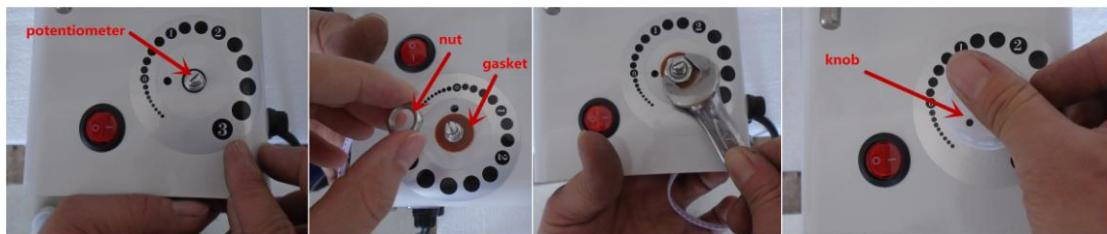

Fig 4
D. 把电位器套进机器上的孔，然后依次把垫片和螺母套进电位器上，用扳手固定螺母，最后把旋钮盖套进电位器上。(图 4)
Finally, knob is setted into potentiometer. (fig4)
First, put the new PCB into the machine and fix it. Then fix the yellow-green wires 1 and 2 in screw 7 in the new PCB(Fig4).
G. 把两条蓝色线固定在新线路板的位置“3”。最后把棕色线固定在新线路板的位置“2”。(如图 4)
First fix the two blue wires in screw 3. Then fix the brown wire in screw 2. (Fig 4)